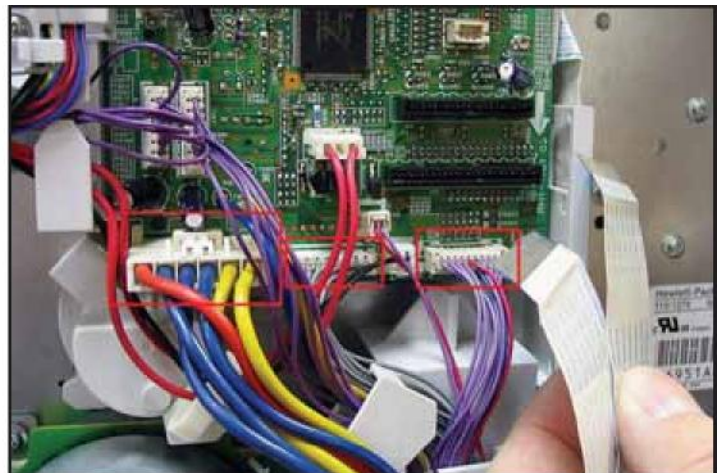

Figure 8 - The two white ribbon cables (being held) and three multi-colored cables (red boxes) must be removed from the DC controller.
6. The DC controller has several cables attached to it, but you will only be removing the two ribbon cables and the three plugs with multi-colored cables (Figure 8, red boxes). Slide these cables through the hole in the side of the printer